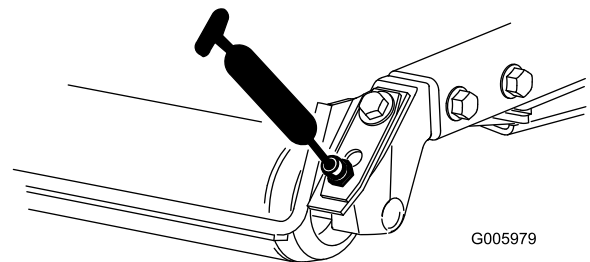

Figure 30
- Rear-roller bearings (2 per cutting unit) (Figure 30)